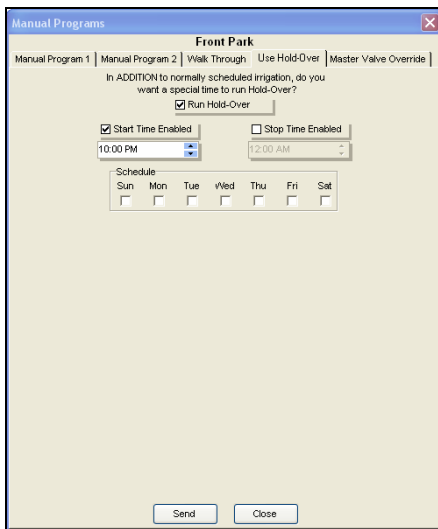

Figure 17.2.19
1. Click on the **Use Hold-Over** tab. This will bring up the “**Use Hold-Over**” screen (Figure 17.2.19).